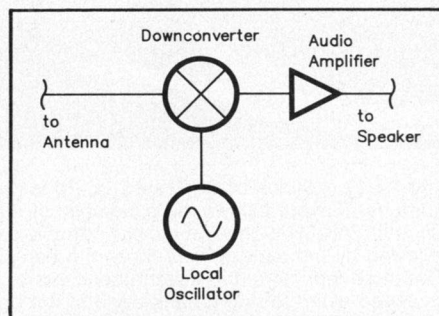

Fig 1—Block diagram of a direct-conversion receiver.
None of the circuits I have copied over the years would do what I wanted—take a CW pileup on the low end of 40 meters and fill my living room with it, with no distortion, clipping or hum. The dynamic range represented by the signals in my 40-meter dipole is greater than the dynamic range of a compact disk audio recording, but the audio output of a typical 40-meter receiver sounds like an AM pocket radio. I wanted a 40-meter CW receiver with the clarity and signal-to-noise ratio of a CD player. To get it I had to start from scratch. The block diagram of a direct-conversion receiver shown in Fig 1 is deceptively simple. There are only three blocks: the downconverter, the local oscillator (LO)